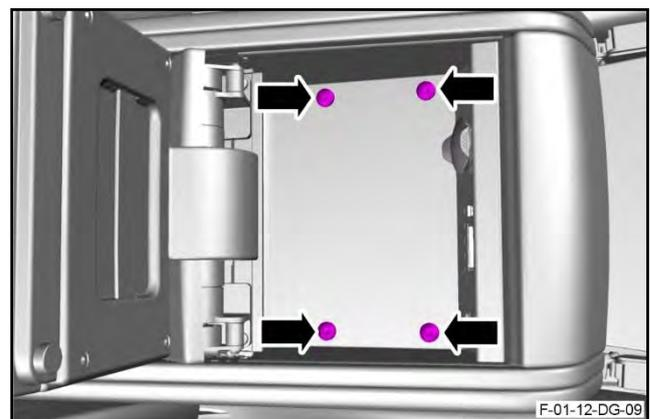

Figure 43
52. Remove the four Torx screws that attach the top panel assembly for the rear console, to the body (refer to Figure 43).